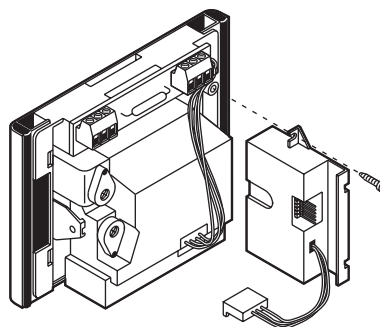

Fig. 1
1. Insert the adapter device to the side of the TV camera unit and secure it with the screw provided (fig. 1).